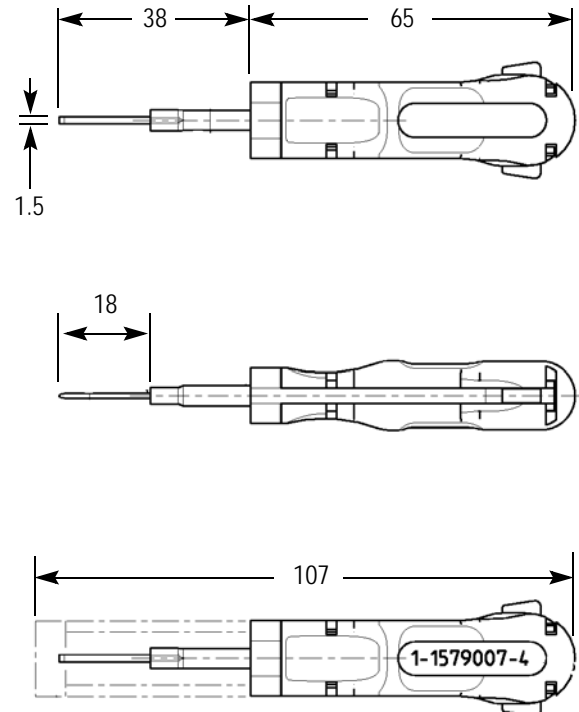

Figure 5
The extraction tool should conform to the dimensions indicated in Figure 5. It is recommended that the tool be inspected upon arrival and at regularly scheduled intervals to insure that the tool has not become damaged during handling.
- Corrected dimension line position in Figure 5.